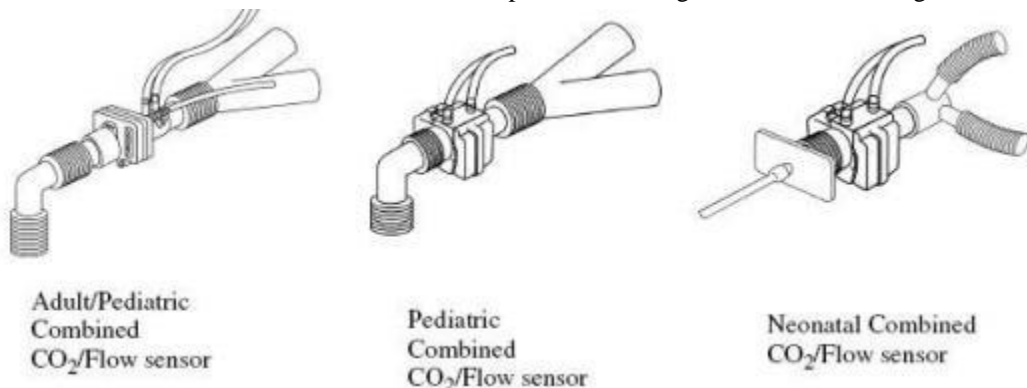

Figure 13-8
- (6) Connect the combined CO2/Flow sensor to the patient breathing circuit, shown as Figure 13-8.